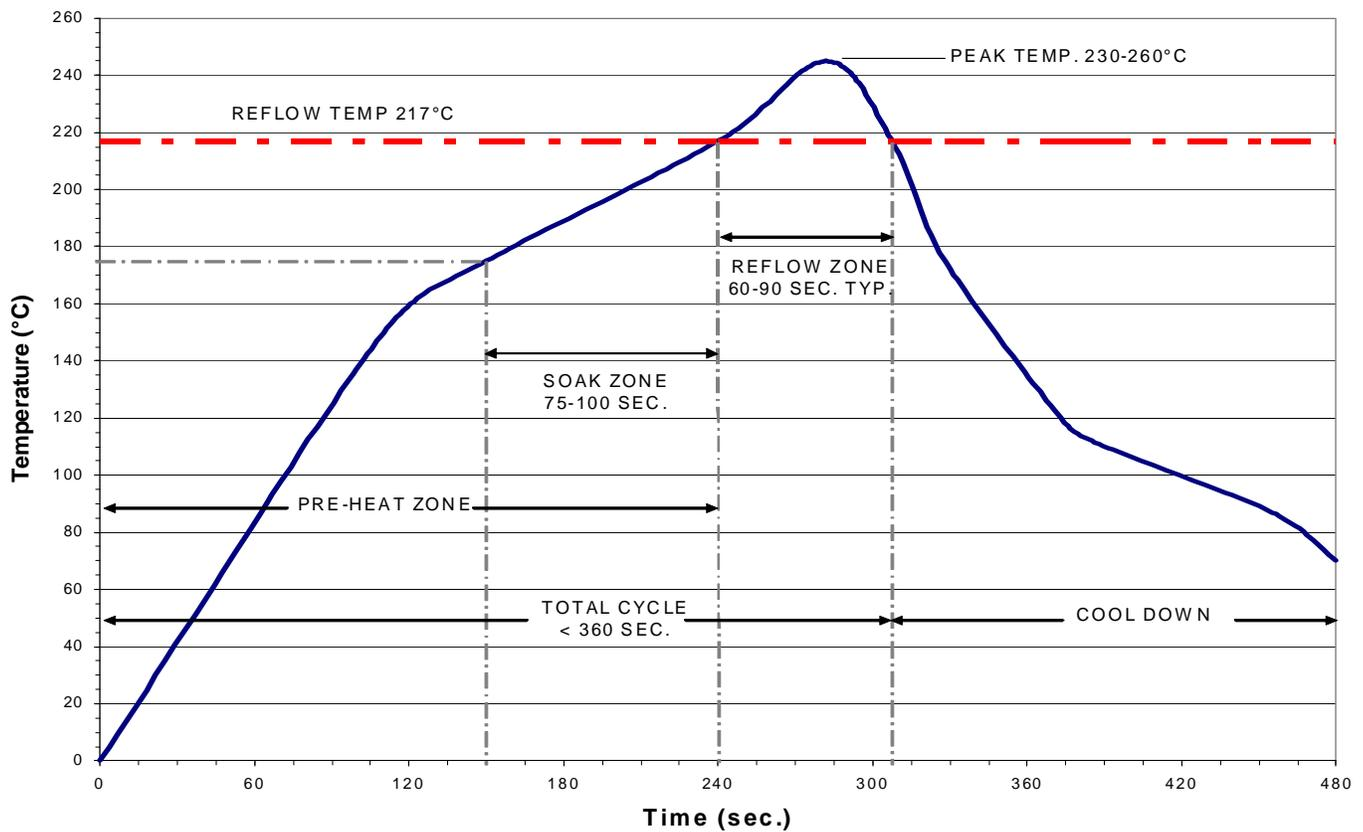

FIGURE 4: REFLOW PROFILE
- See figure 4 for an example of a lead free profile.